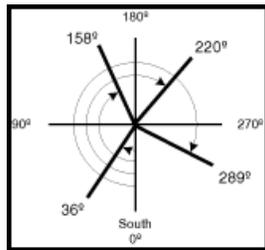

Figure 155: ArcMap South Azimuth
- In the south azimuth system, the angles are measured clockwise from south, as depicted in Figure 155.